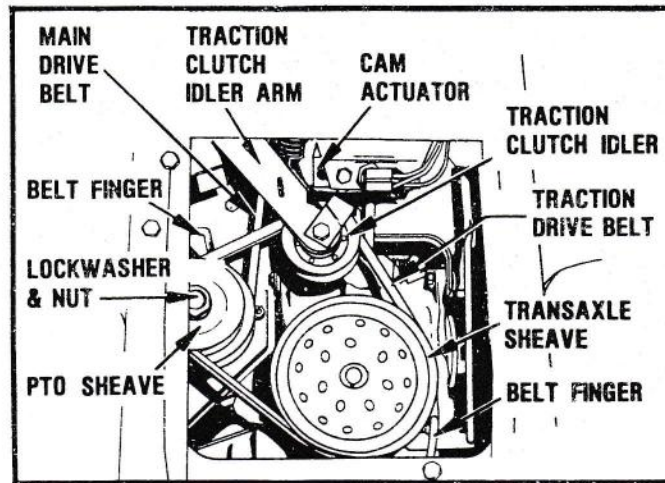

FIGURE 7
6. Loosen bolts holding two belt fingers around traction drive belt. Rotate fingers away from belt. See Figure 7.
7. Depress clutch pedal and unwrap traction drive belt from transaxle and center groove of three groove sheave. See Figure 7.
8. Disconnect traction clutch spring from traction clutch idler arm. See Figure 7.